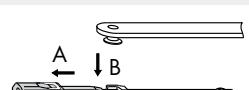
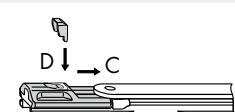

Figure 1
Figure 2
Hinging the tilt only stay	<p>A Push back the anti-lift device of the stop (10) (Figure 1).</p> <p>B Insert pan head rivet of the tilt only stay LM (8) in the provided guide (Figure 1).</p> <p>C Release the anti-lift device of the stop (10) (Figure 2).</p> <p>D Insert barrier (9) in provided groove and snap into place (Figure 2).</p>